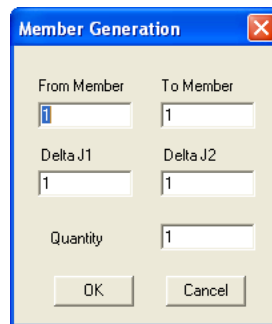

Figure 3-24 Member Generation dialog box
- In the MEMBERS dialog box, choose the GENERATE button (this command button will be dimmed if no members are input). The dialog box of Figure 3-24 appears.